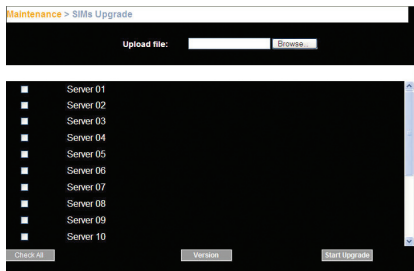

Figure 23 SIM Upgrade
- From the menu, select "SIM Upgrade". The Upgrade window should appear, showing the current firmware version (see Figure 23).